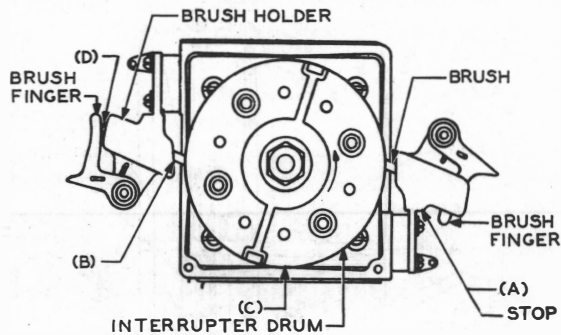

Fig. 15 - Location of Interrupter Brush
2.15 Position of Brush Finger: Fig. 15(A) - With the brush finger resting on the brush, there shall be a clearance between the brush finger and its stop.
2.16 Brush Fit: Fig. 15(B)
2.17 Eccentricity of the Interrupter Drum: Fig. 15(C) - The eccentricity of the interrupter drum shall not exceed 0.005 inch.
2.18 Brush Finger Tension: Fig. 15(D) - When the inside edge of the brush finger coincides with the upper corner of the brush holder, as gauged by eye, the tension of a brush finger, measured parallel to the length of the brush at a point in line with the face of the brush nearest the end of the brush finger, shall be